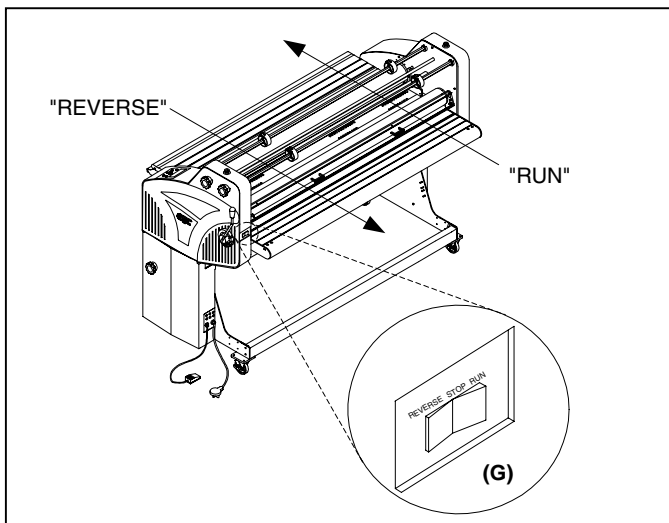

Fig. 11
G. REAR CONTROL SWITCH: (Figure 11) This switch enables the operator to run jobs from the rear operating position of the laminator when rear controls are enabled.